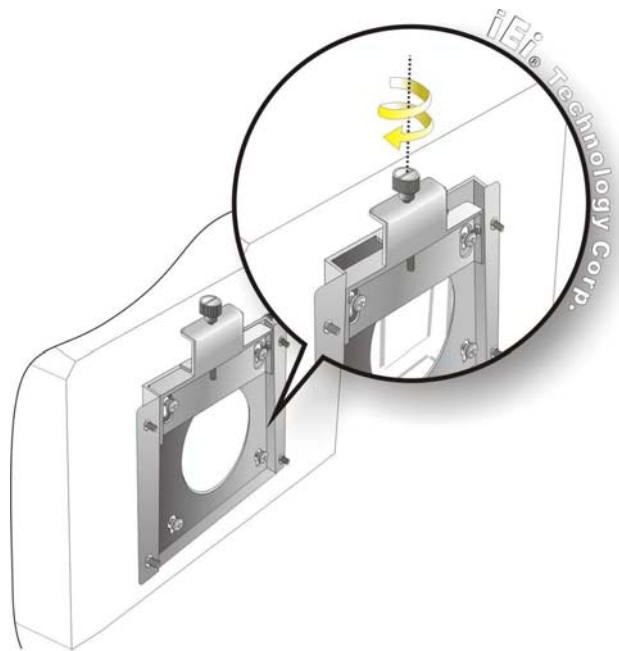

Figure 3-14: Secure the Panel PC
Step 9: Secure the panel PC by fastening the retention screw of the wall-mounting bracket. (Figure 3-14).